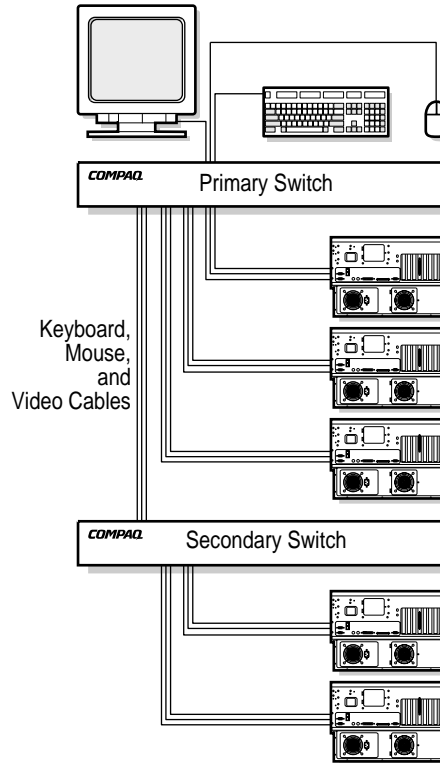

Figure 1-2. Tiered configuration
- You can tier multiple Server Console Switch units to connect up to 64 servers. This configuration is illustrated in Figure 1-2, where the secondary unit's device port is connected to one of the computer ports on the original, or primary unit. Multiple Server Console Switch units can be tiered from the primary unit.